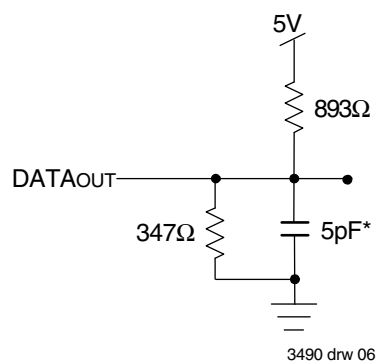

Figure 2. Output Test Load
1. Transition is measured 0mV from Low or High impedance voltage with the Output Test Load (Figure 2).
1. Transition is measured $\pm 200\text{mV}$ from Low or High-impedance voltage with the Output Test Load (Figure 2).
3. Transition is measured 0mV from Low or High-impedance voltage with the Output Test Load (Figure 2).